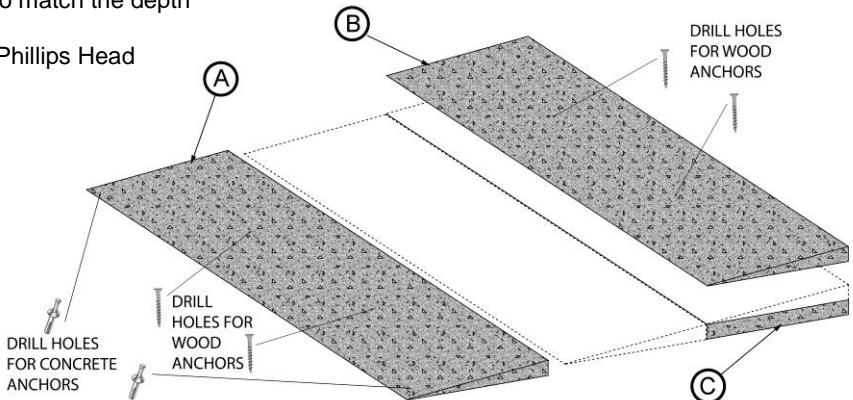

FIG. 2
1. If door threshold is equal to the height of the Modular Entry Mat (2½" high), use mat as is (FIG. 2, section A).
3. If door threshold is greater than the height of the Modular Entry Mat (2½" high), two Modular Entry Mats (shown in FIG. 2, sections A & B) along with one pair of Risers (FIG. 2, section C) can be combined to accommodate a rise up to 4¾" high.
- a. FIG. 2, section B, can be trimmed to the desired height, depth and/or width. If section B is trimmed, section C, which is used to increase overall height, needs to be trimmed to match the depth and/or width of section B.
- b. Secure mat using supplied Phillips head screws (2 each). Space screws evenly (see FIG. 2 for placement) and drive until head is ¼" below the mat surface.
- b. Using a ¼" diameter masonry bit, drill a hole 2" deep 1" from the corner edges at the taper (FIG. 2).